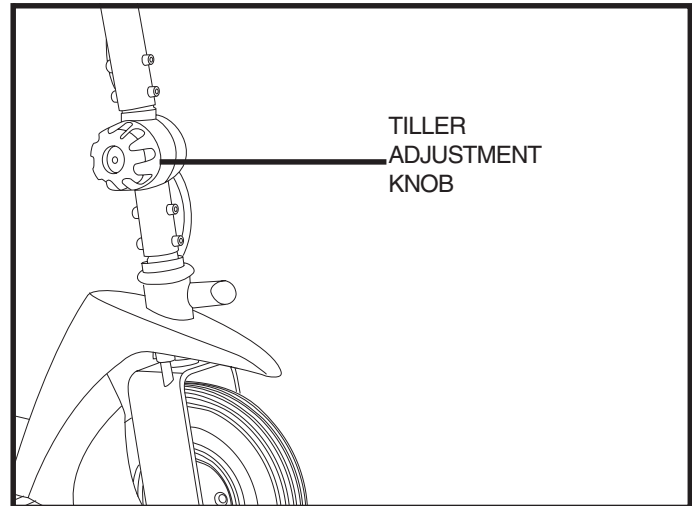

Figure 16. Tiller Adjustment
1. Turn the tiller adjustment knob anticlockwise to loosen the tiller. See figure 16.